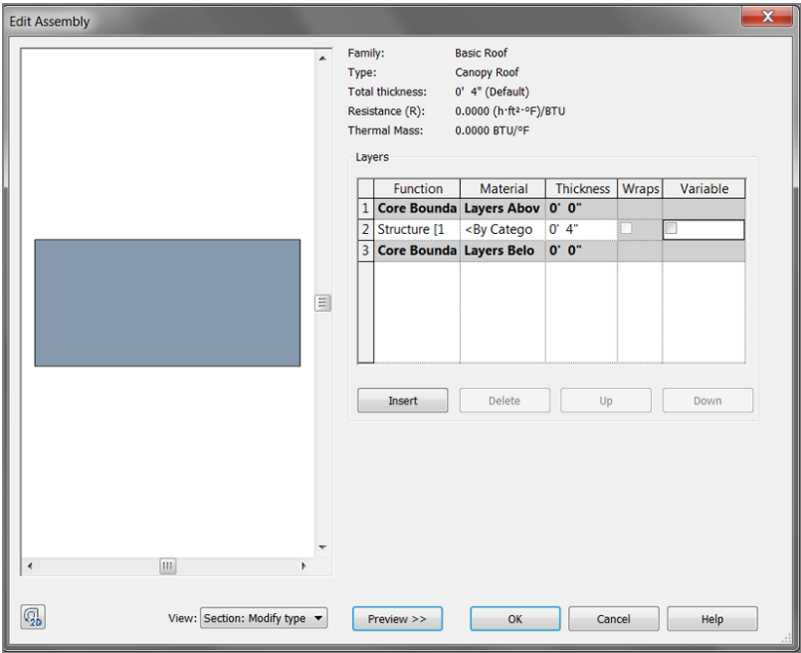

FIGURE 7.52: Changing the thickness of the canopy roof
12. In the Edit Assembly dialog box, change the structure thickness to 4" (100mm), as shown in Figure 7.52.